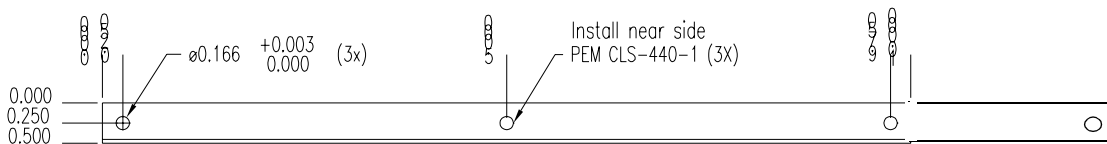

Figure 3: Fabrication Drawing of Board Stiffeners
- **Board stiffeners:** Four (two long and two short) are required around the perimeter of the Daughterboard to reinforce it. Fabrication drawings for compatible long and short stiffeners are provided in Figure 3 on page 15.
Figure 3 shows a drawing of the short and long board stiffeners.